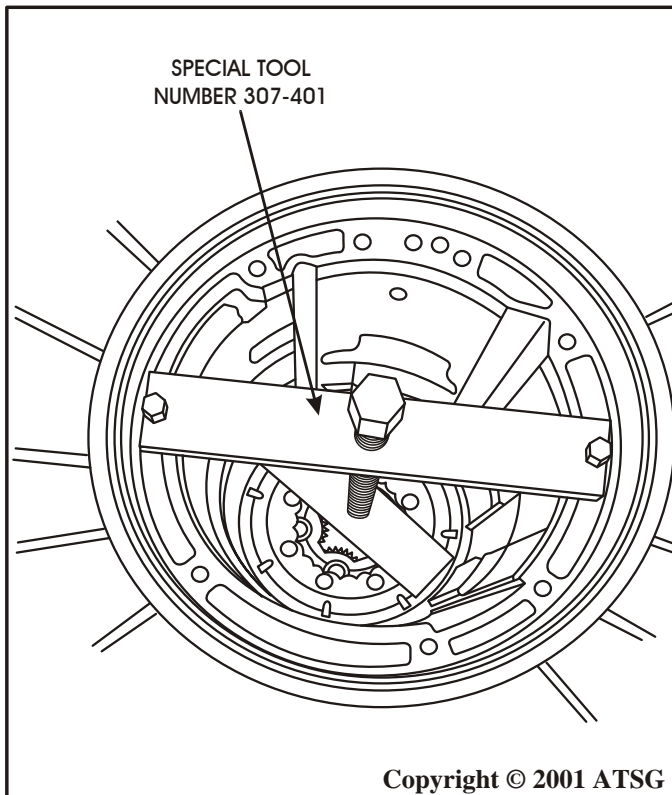

Figure 149
21. Install the special tool, as shown in Figure 149, to compress the intermediate clutch bellville spring.